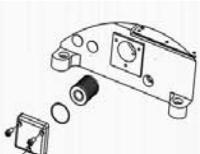

图7(Fig. 7)
(3) 滤油器的更换(图7)
3. Replacing oil filter: (Fig.7)